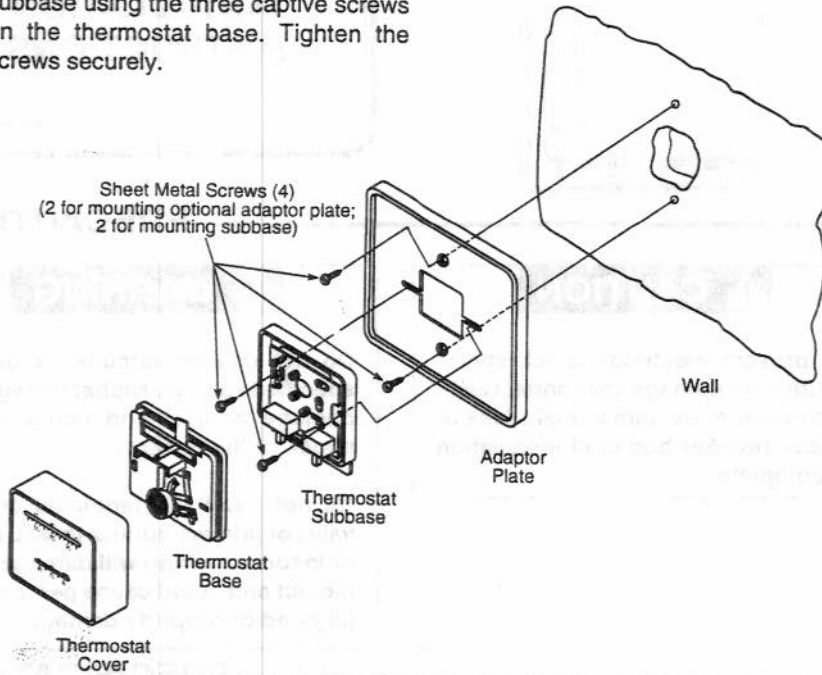

Figure 1. Installing the thermostat on the wall
2. **Mount and Wire Switching Subbase:** Remove base from subbase by loosening the three screws on the base. Mount the subbase on the wall or adaptor plate using the screws provided (see fig. 1). Connect wires to the appropriate terminals on your new thermostat.